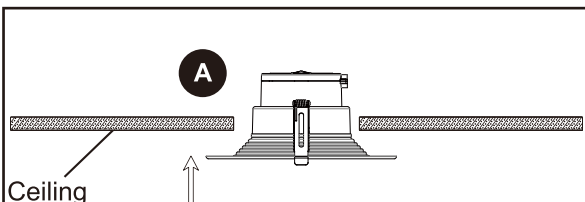

Fig. 4
- Push the spring-loaded clips on the LED Downlight (A) upwards and insert the base of the LED Ultra-Thin Downlight (A) into the mounting hole shown at Fig. 4.